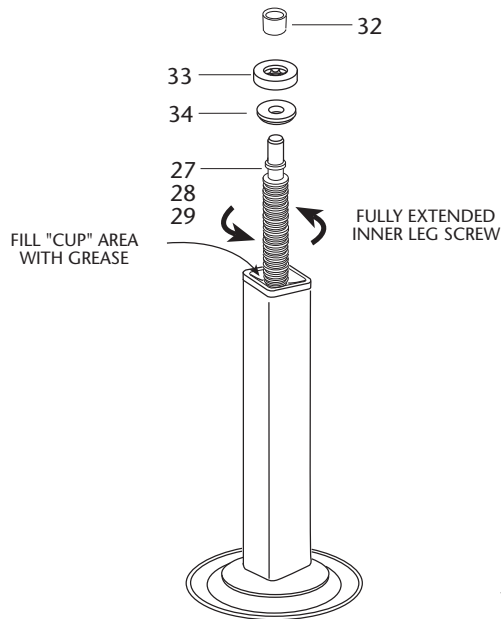

Figure 8
- Rotate the lift screw counter-clockwise until it is fully extended, then fill the "cup" area of the lift nut with grease as shown in *Figure 8*.